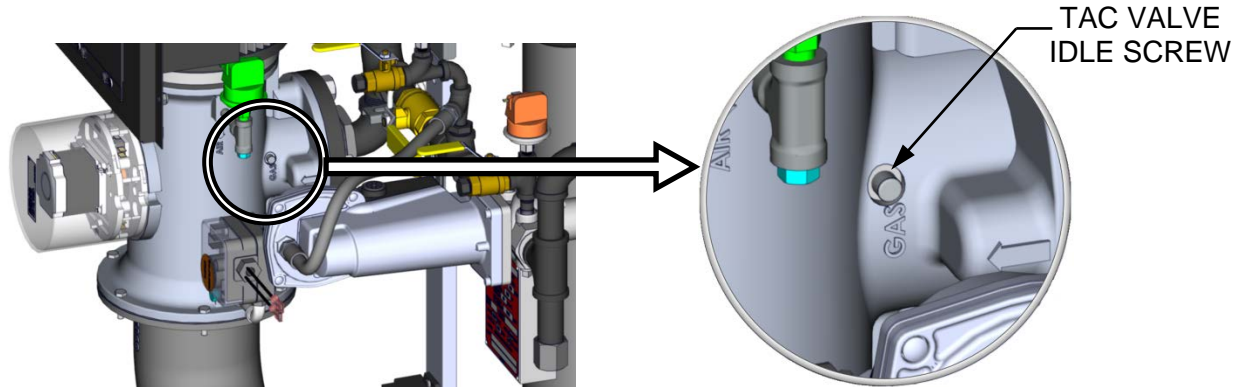

Figure 4-6. TAC Valve (Idle Screw) Adjustment
25. If the oxygen level at the 16% valve position is too high and the Blower voltage is at the minimum value, you can adjust the idle screw (TAC valve), which is recessed in the top of the Air/Fuel Valve (see Figure 4-6 in the previous section). Rotate the screw 1/2 turn clockwise (CW) to add fuel and reduce the O₂ to the specified level. Recalibration **MUST** be performed again from **60% down to 16%** after making a change to the idle screw (TAC valve).